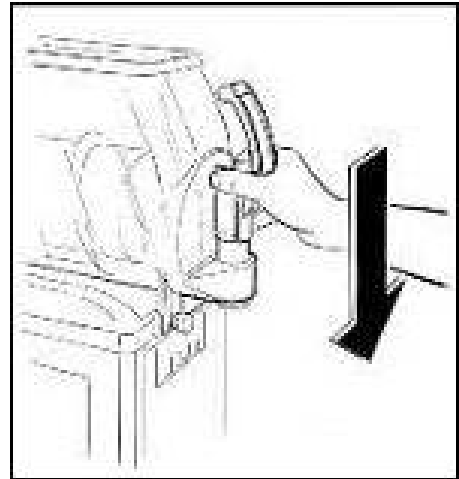

Fig. 47
- Re-insert the tap (Fig. 47) spreading Vaseline on the o-rings to facilitate sliding the tap in its seat until completely inserted.